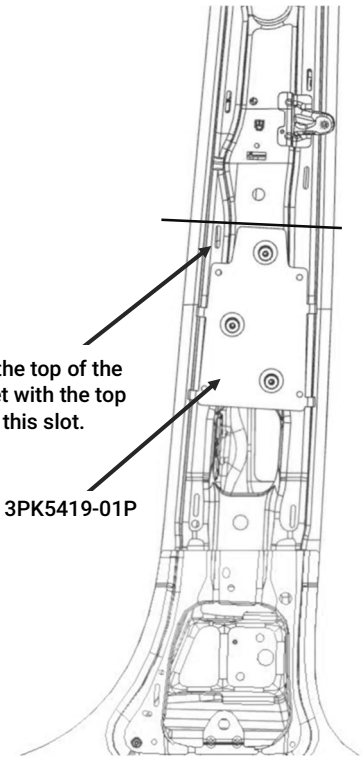

Figure 1
- Align the top of the bracket with the top of the slot shown in Figure 1. The bottom of the B-pillar bracket should be just below the top of a large hole near the bottom of the B-pillar.
- Place the b-pillar bracket back into position on the vehicle and secure using (4) self tapping screws [3X162].